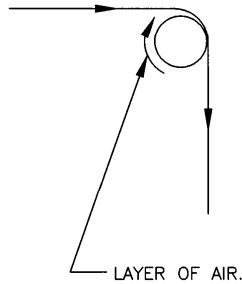

FIGURE 8
- Air entrainment in webs (figure 8) as they flow over rolls will cause wrinkles. Air entrainment will create slippage between the web and the roll face. If this slippage occurs, then the web is not in traction with the roll. For the web handling principal, that a web will seek to be perpendicular to a roll in the entry span to that roll, to effect web behavior, it must be in traction with the roll. If the web is not in traction with a roll, it can wander or stay aligned with that roll to which it is not perpendicular. Webs that wander will wrinkle because the web will move to be perpendicular to the next roll with which it has traction. This movement to remain perpendicular will cause a strain on the web. Air entrainment problems can be detected by viewing idler rolls that stop rotating during the converting process. Also, if wear spots are seen across idler roll faces, air entrainment is probably the problem. Machinists' bluing dye can be applied to idler rolls where air entrainment is suspect to detect wear spots.